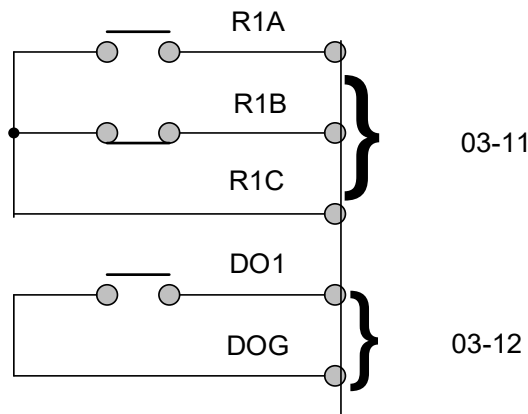

Figure 4.3.95 Overtorque/Undertorque detection signals using multifunction digital output terminals
(1) In V/f control or V/f+PG mode, detection is based on 100% of the inverter's rated output current.
(2) In SLV or SV control mode, detection is based on 100% of the motor's rated torque.
- Overtorque/undertorque detection signals can be output to multifunction digital output terminals (R1A–R1C, DO1), configured using parameters 03-11 to 03-12 (Multifunction Digital Output Terminal Function Selection) set to 12 or 25. Refer to the parameters in Figure 4.3.95.